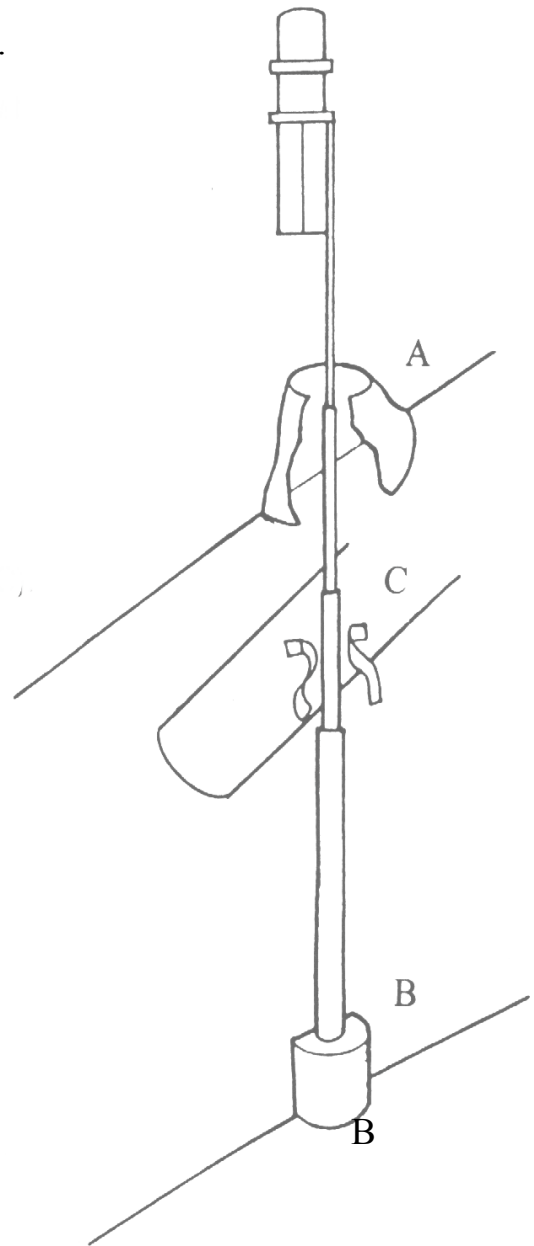

Figure 2
6. Insert through observation port (A) of survival craft and position bottom of mast into antennae pocket (B) (see figure 2).
7. Secure to canopy support (C).